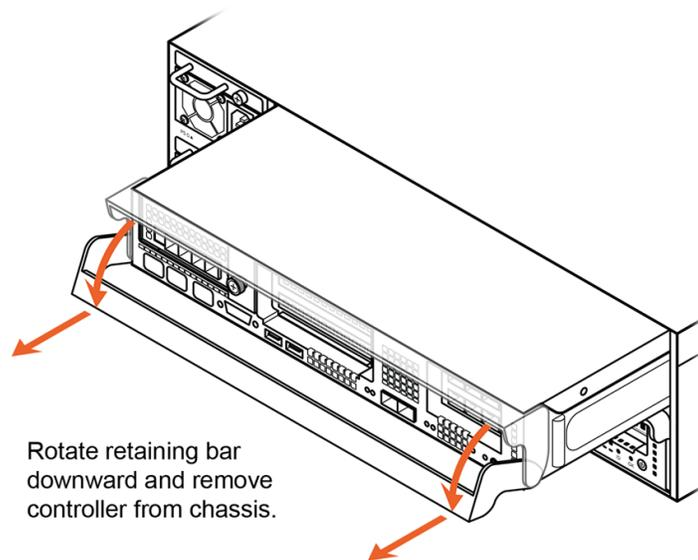

Figure 14-5. Removing the Controller
2. Rotate the controller retaining bar downward and pull the controller from the chassis. See Figure 14-5.